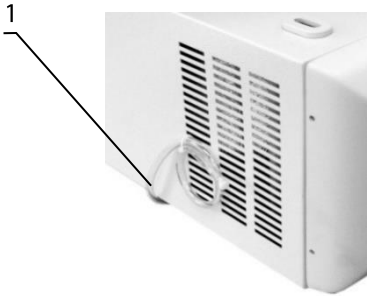

Figure 3. LMC-4200R, left side
- (**LMC-4200R**) Be sure to cork the drain hose (fig. 3/1) on the left side of the unit with a stopper to prevent the rising of chamber temperature.